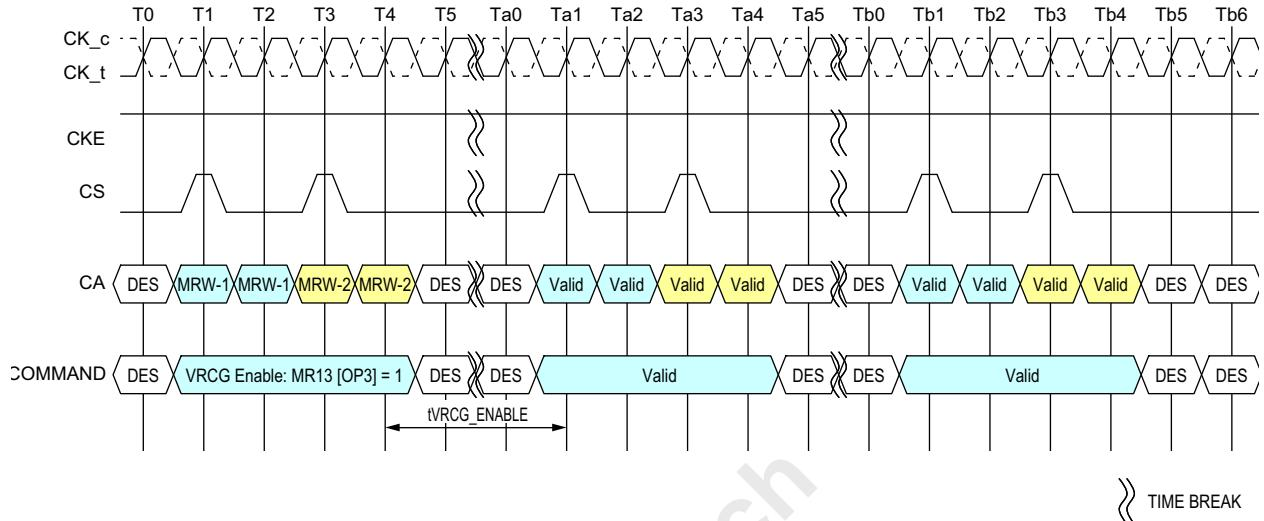

Figure 90 — VRCG Enable Timing
LPDDR4 SDRAM VREF current generators (VRCG) incorporate a high current mode to reduce the settling time of the internal VREF(DQ) and VREF(CA) levels during training and when changing frequency set points during operation. The high current mode is enabled by setting MR13[OP3] = 1. Only Deselect commands may be issued until tVRCG\_ENABLE is satisfied. tVRCG\_ENABLE timing is shown in Figure 90 and Table 127.